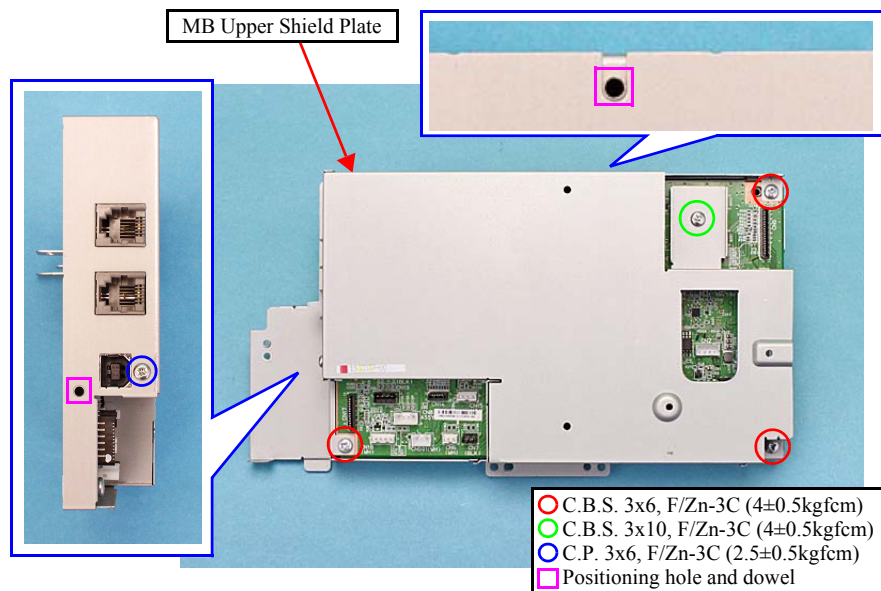

Figure 7-42. Removing the MB Upper Shield Plate
- When reassembling the Main Board Unit, make sure to match the positioning holes (x2) to the dowels (x2) as shown in Figure. 7-42.